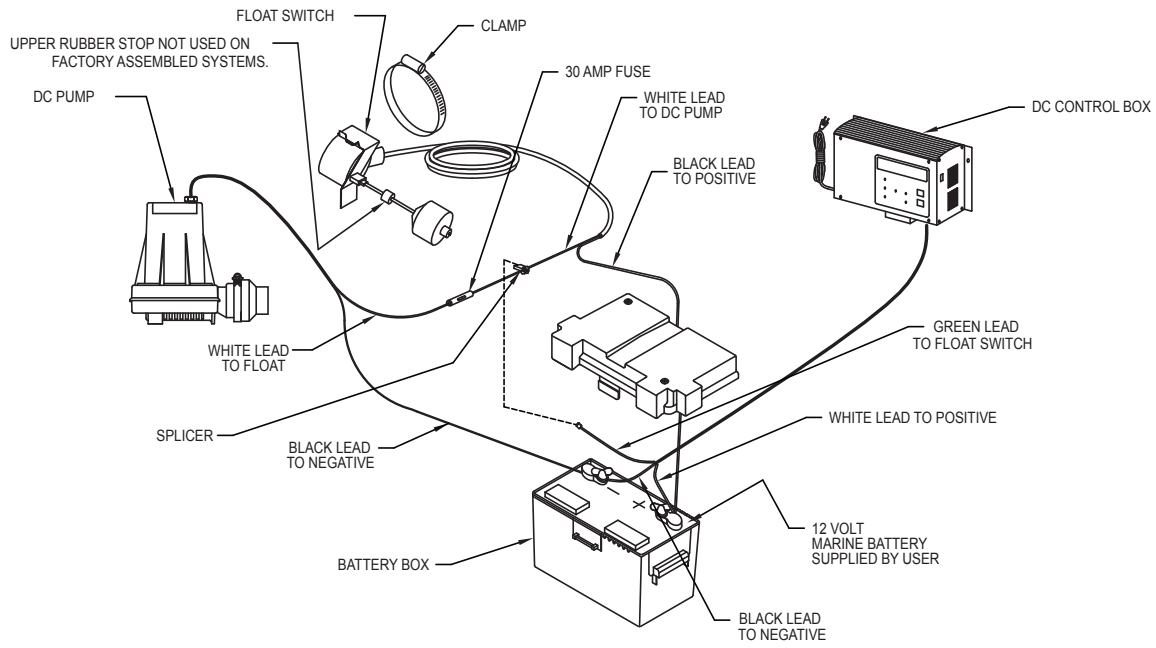

FIGURE 3
- (a) Check 30 amp fuse in line from pump to switch (see fig. 3). If fuse is blown, replace with 30 amp Littelfuse type 3AG, series 311.
11. Install DC charger (see figure 3) by using anchors provided. If more convenient, the charger may be set on a nearby shelf or ledge. The charger should be located 3 or 4 ft. above the sump. Then, remove protective screen from the front of the charger.
13. Connect the black lead from the pump to the negative (-) battery terminal. Connect the white lead from the pump to the white lead from the switch. This connection is made at the fuse installed on the switch wire (see figure 3). Connect the black lead from the switch to the positive (+) battery terminal.
14. Connect the green sensor wire to the sensor connector (figure 3).